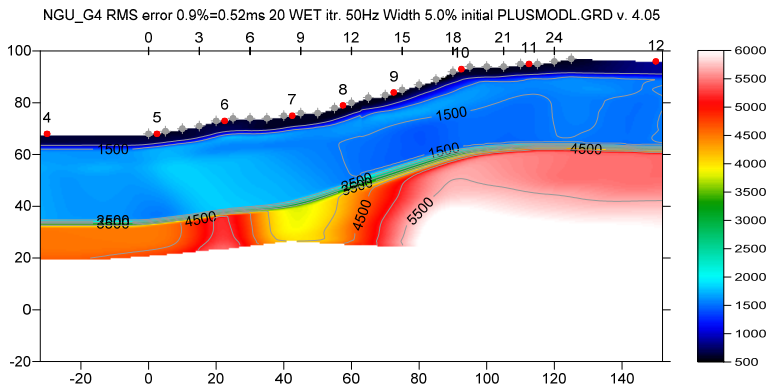

Fig. 40 : WET Tomo|Automatic WET. Starting model Fig. 39. Discard WET smoothing (Fig. 35) but don't enable WDV.S.
- click on Surfer icon in task bar to view the WET tomogram (Fig. 40) obtained with default WET parameters : 20 *Steepest-Descent* WET iterations, *Wavepath frequency* 50Hz, *Ricker differentiation -1* (Gaussian), *Full WET smoothing*.
Here is the .rar archive with LAYRTOMO folder for Fig. 40 .
Here is the .rar archive with seis32.* profile database files for Fig. 40 .